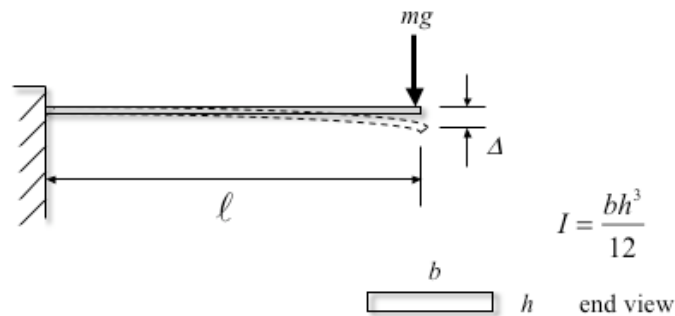

Figure P1.89
- 1.89** Consider the diving board of Figure P1.89. For divers, a certain level of static deflection is desirable, denoted by Δ . Compute a design formula for the dimensions of the board (b , h and ℓ) in terms of the static deflection, the average diver's mass, m , and the modulus of the board.